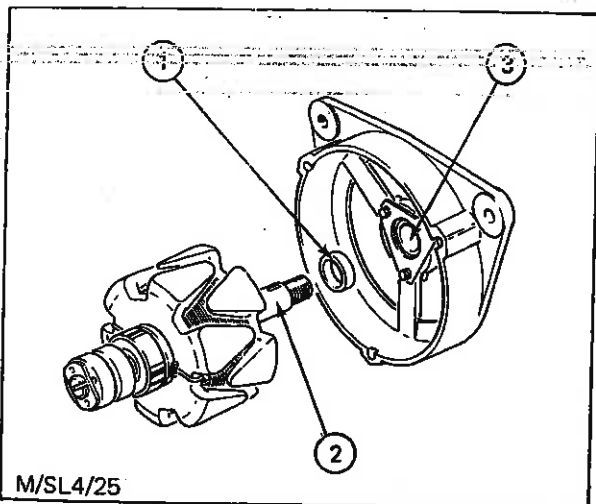

Fig. 41 - Assembling Rotor and Drive End Bracket
1. Position the bearing spacer (1) on the rotor shaft (2) - see Fig. 41 - and press the rotor shaft through the drive end bearing (3).